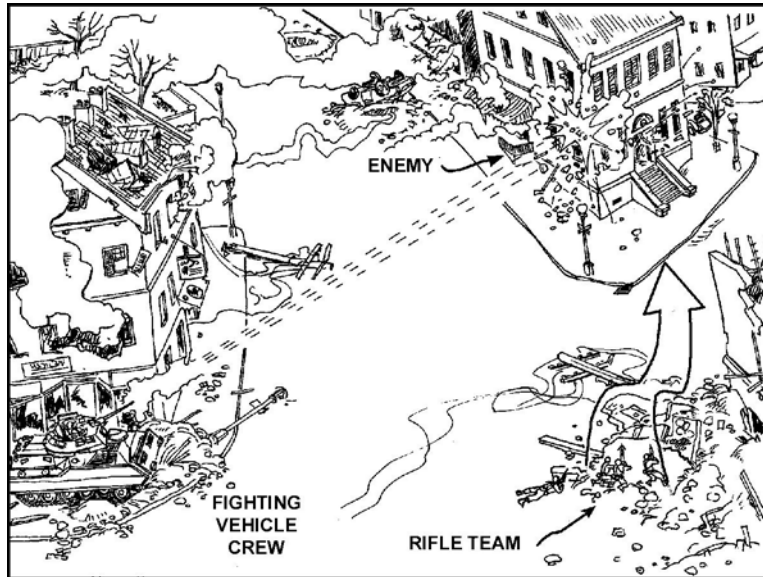

Figure 4. Entering a building at ground level.
- (1) The same procedure is repeated from room to room and floor to floor (including the basement, if there is one) until the building is clear of all the enemy. Only then is it considered secured.
- (2) If there is no covered route to the roof, have the dismount element enter at a lower story or at ground level (Figure 4). In this case, the fighting element seizes a foothold, quickly fights to the highest story, and then clears the building room by room from the top down.